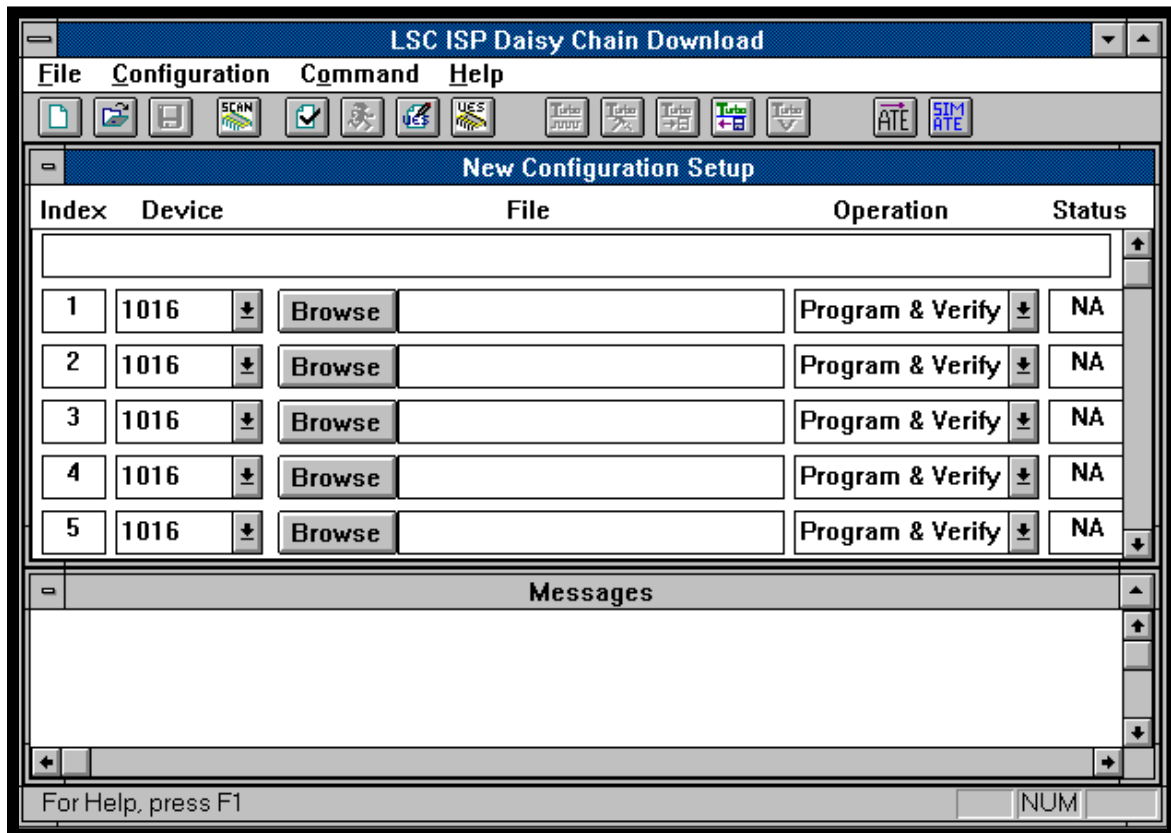

Figure 3-4. New Configuration Setup Dialog Box
2. Enter a number in the device field, click **OK** to execute, and the New Configuration Setup window appears (Figure 3-4). The scroll arrows and box appear to the right of the Status column if you choose a number greater than five. The default device is the ispLSI1016.
2. Enter a number in the device field, click **OK** to execute, and the New Configuration Setup dialog box appears (Figure 3-4). The scroll arrows and box appear to the right of the Status column if you chose a number greater than five. The default device is the ispLSI1016.